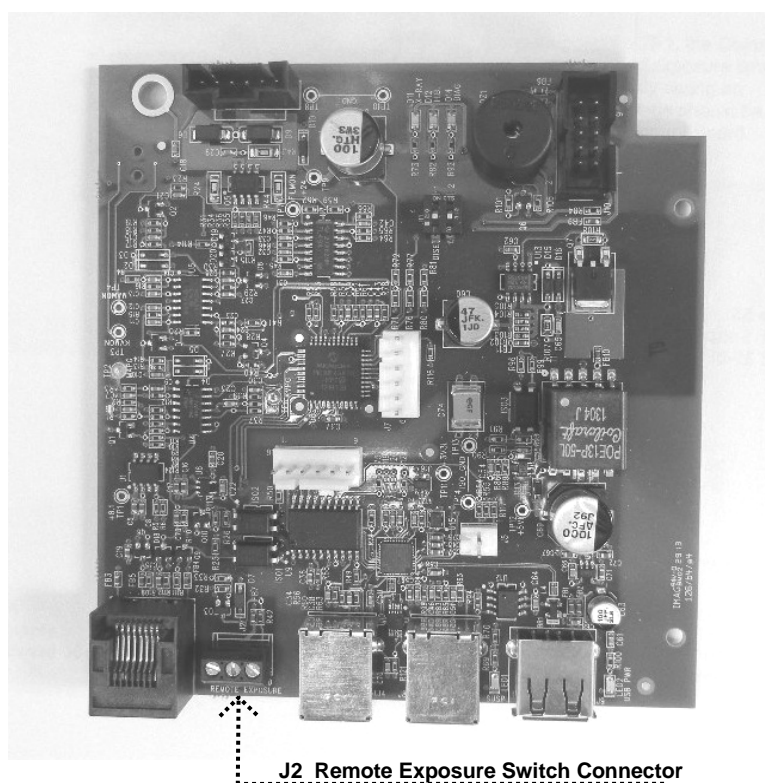

Figure 62
1. If the Operator Panel indicator does not sound, inspect the condition of any remote exposure switches. Substitution is the preferred method to test these switches, although a jumper wire can be applied across the contacts of J3, shown in *Figure 62*, on the Logic Board momentarily to simulate an exposure switch closure.